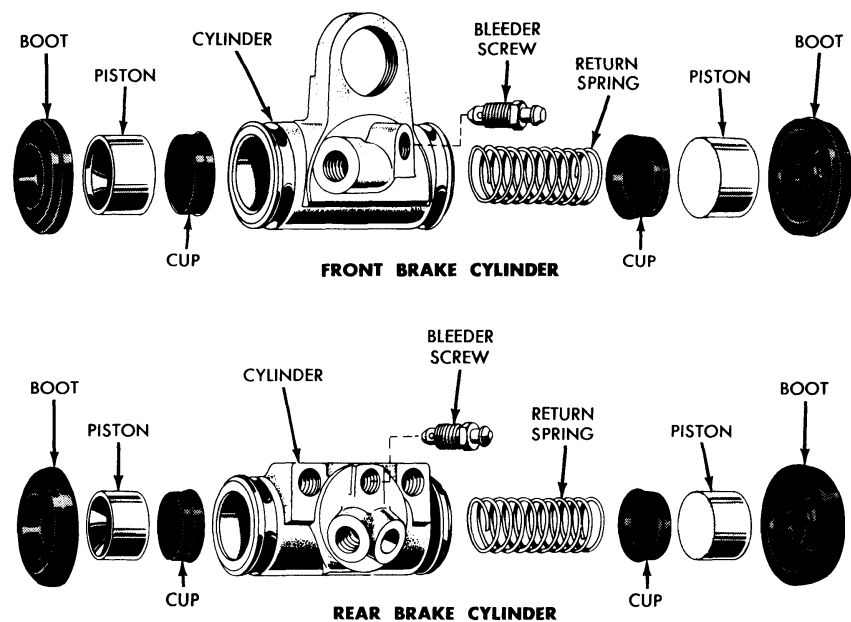

FIG. 20—Front and Rear Wheel Cylinders
1. Remove the links and the rubber boots from the ends of the brake cylinder. Remove the pistons, cups, and return spring from the cylinder bore (Fig. 20).
3. Insert the return spring, cups, and pistons into their respective positions in the cylinder bore (Fig. 20). Place a boot over each end of the cylinder. Bleed the brake system.